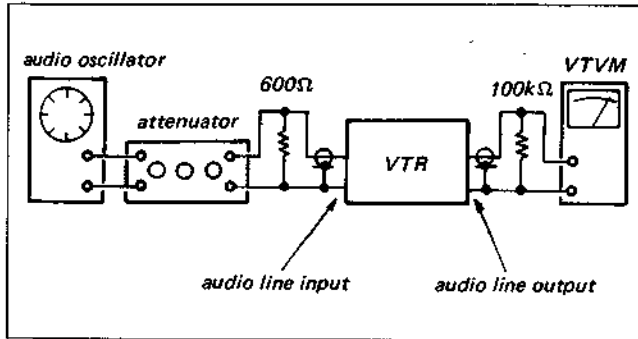

Fig. 3-51. Connections
The connections of the equipments to the input/output terminals are shown in Fig. 3-51.
3. Adjust the azimuth adjustment screw on the audio head for a maximum VTVM reading. (See Fig. 3-51).